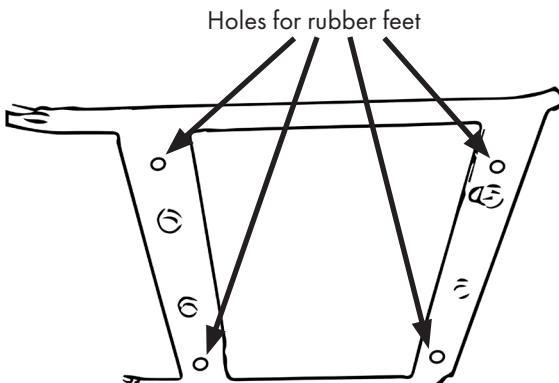

Figure 2
- Insert the rubber feet into the holes at the positions shown in Figure 2 and secure them using nuts.